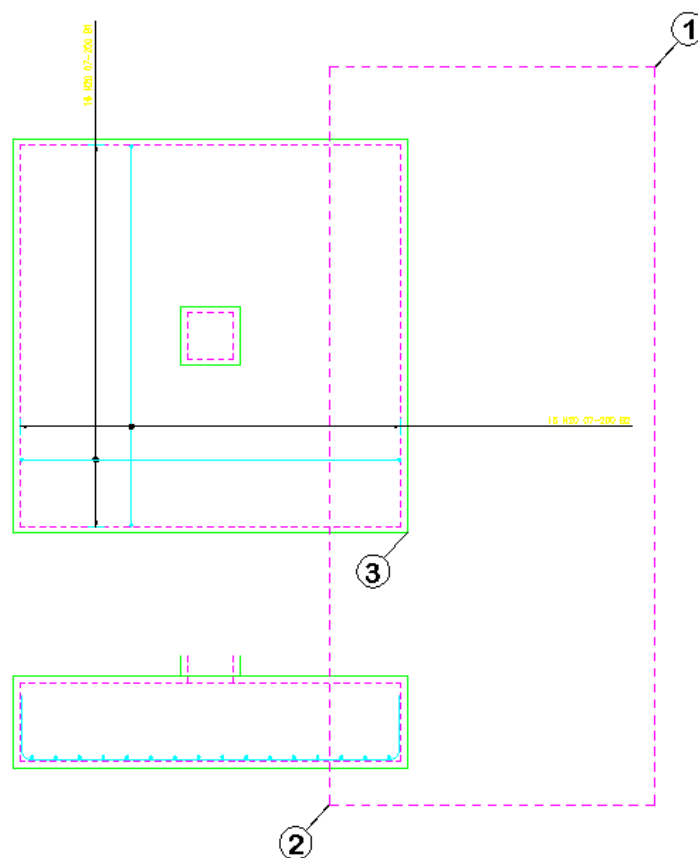

Figure 7.5.1:1 Pad Base before using Stretch Bar/Range
- ▶ *Select object to be stretched or crossing window:* Select point 1 as shown in figure 7.5.1:1